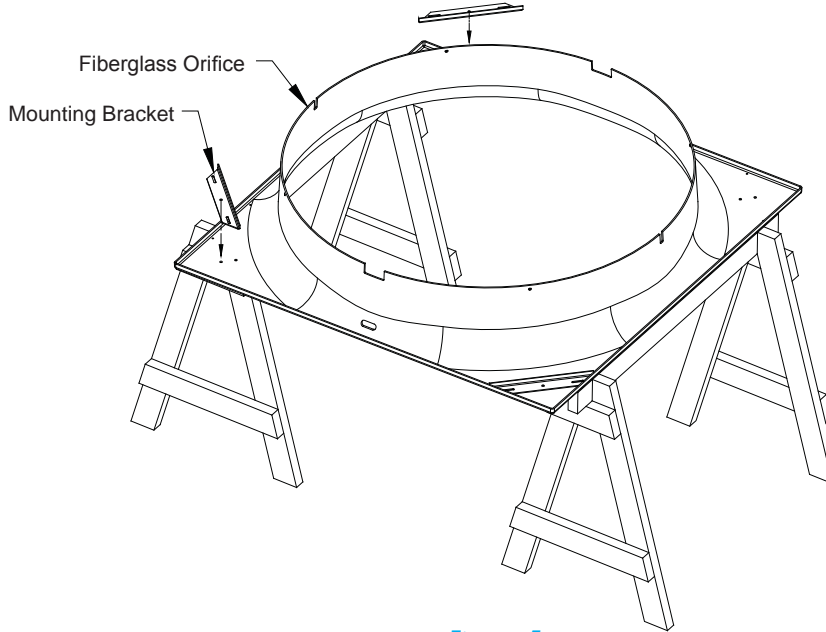

Figure 5
Place Fiberglass Orifice on saw horses with the round orifice pointing up and place (1) Cone/Strut Mounting Bracket in each corner of the Fiberglass Orifice. See Figure 5.